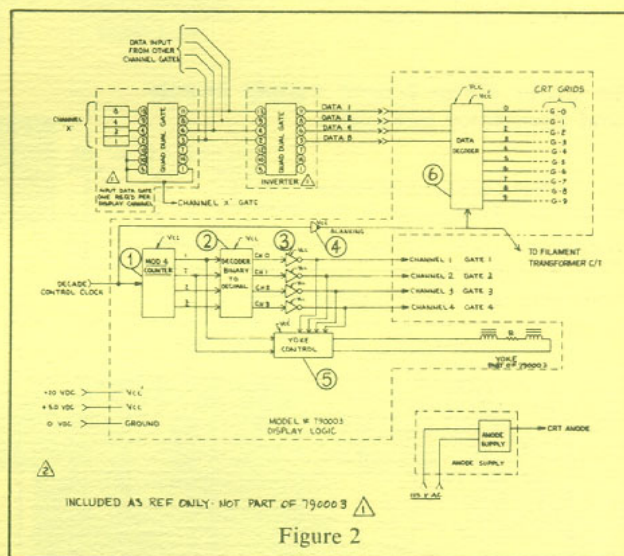
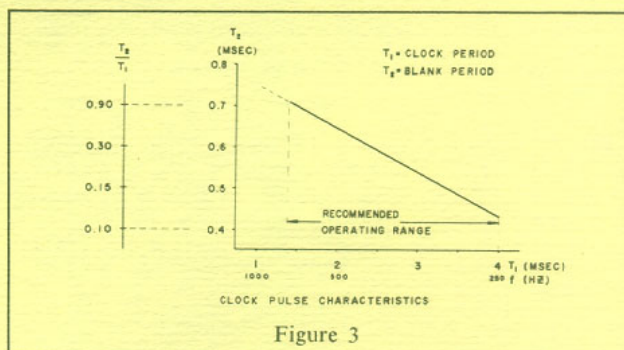

Figure 2
Figure 3
A complete four decade display system using the IEE Model SA Nimo is diagrammatically shown in Figure 2. The display is comprised of:
The sequence control accepts a "Decade Control Clock" (reference Figure 3). This clock steps a "Mod-4 Counter" (1) on Figure 2, the output of which is decoded (2) and inverted (3) to produce "Channel Control Gates" 1 through 4. These gates are used to select the decade (or channel) to be displayed as well as position the character via the "Yoke Control" (5). The "Decade Control Clock" is also used to generate the "Blanking" pulse (4). This pulse provides "Z" Axis modulation to interrupt the Nimo beam while the "Decade Control Clock" is low by driving the cathode positive, thereby biasing all grids to cutoff. When the "Decade Control Clock" is high the "Blanking" pulse is removed and the control grid voltage levels are determined by the "Data Decoder" (6).
The "Data Decoding" section (6, Fig. 2) accepts 4 line BCD data (true terms) and decodes to decimal, inverts and drives the Nimo control grids. Since only a single set of ten grids is used (allowing the decoder to be time shared) all four data channels (decades) must be digitally multiplexed onto four common lines as shown by Figure 2. The channel gate signals are used to select the channel or decade to be displayed.